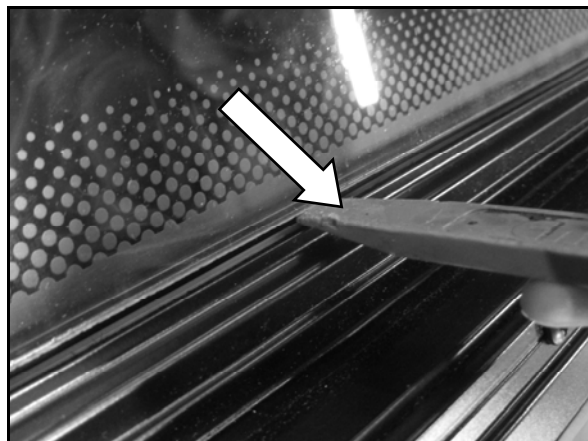

Figure 3-11. LIFT WINDOW LINER
- 1) Refer to **Figure 3-11**. Move window liner upward. This will reveal bottom edge of window liner. This can be done by hand, simply pushing or “Popping” window liner up, or using a putty knife will pry window liner up.